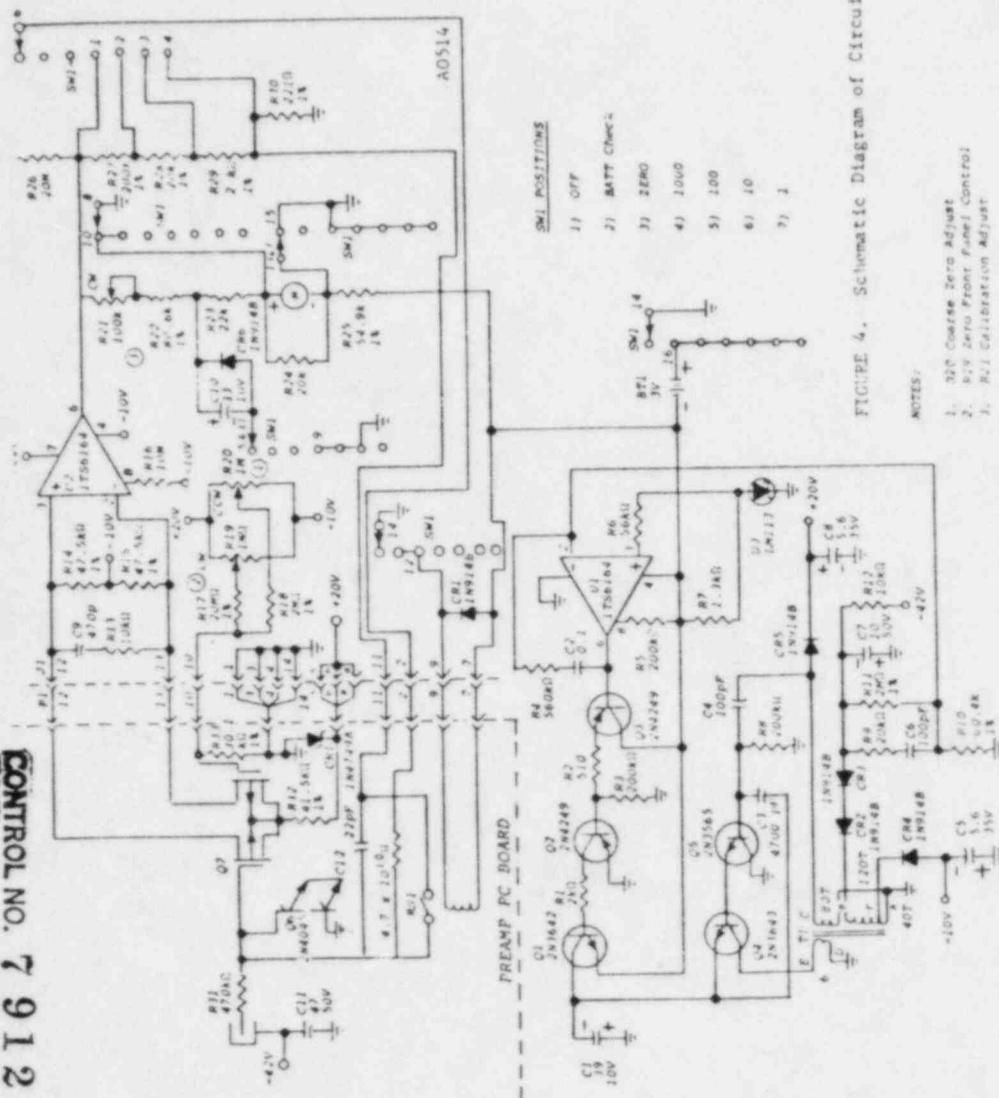

FIGURE 4. Schematic Diagram of Circuit Board
3.3.1 Amplifier - The signal amplifying element is the OP AMP, U2, as shown in Figure 4. SW1 operates the reed switch, RS1, on the preamplifier board in accordance with the function setting of SW1.
Test the battery before each operation of the instrument. Figure 4 can be used to troubleshoot the instrument in the event of failure.